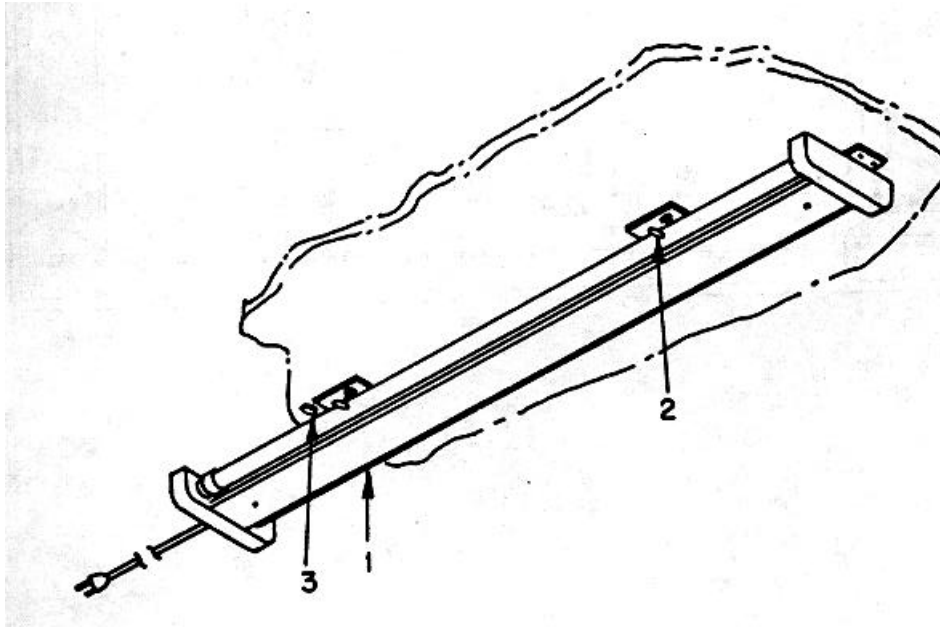

Figure 2-14. Ceiling Light Assembly
(8) Ceiling lights assemblies. Refer to figure 2-14 and remove ceiling light assemblies (1) from their ceiling storage brackets (2) by rotating safety release bracket (3) and sliding the light assembly over the button to allow the assembly to drop from its mounting stubs. Install the lights onto the expanded shelter section ceilings. Connect electrical cord from each light assembly to the ceiling receptacles. Light storage locations (4) are shown in Figure 2-15.